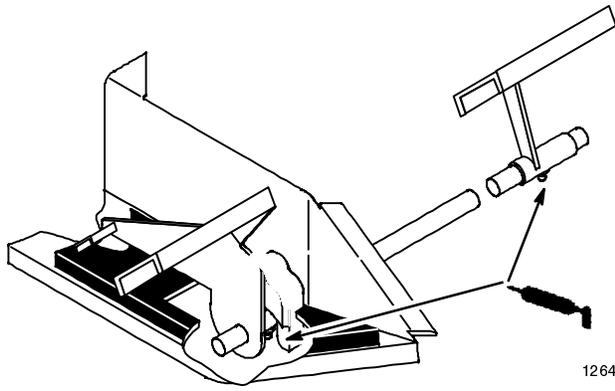

Figure 25
3. Lubricate the traction control pedal on hydrostatic models (or brake and clutch pedals on gear drive models) where they pivot on mounting shaft (Fig. 25).